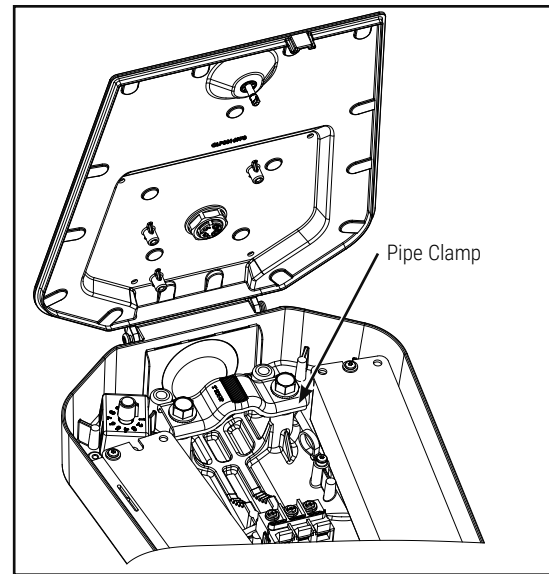

Figure 1a
ARCH3 & 4 size fixtures contain either (1) or (2) clamps depending on order options selected. For single clamp options, make sure to utilize the most inwardly located clamp position (see figure 1a).